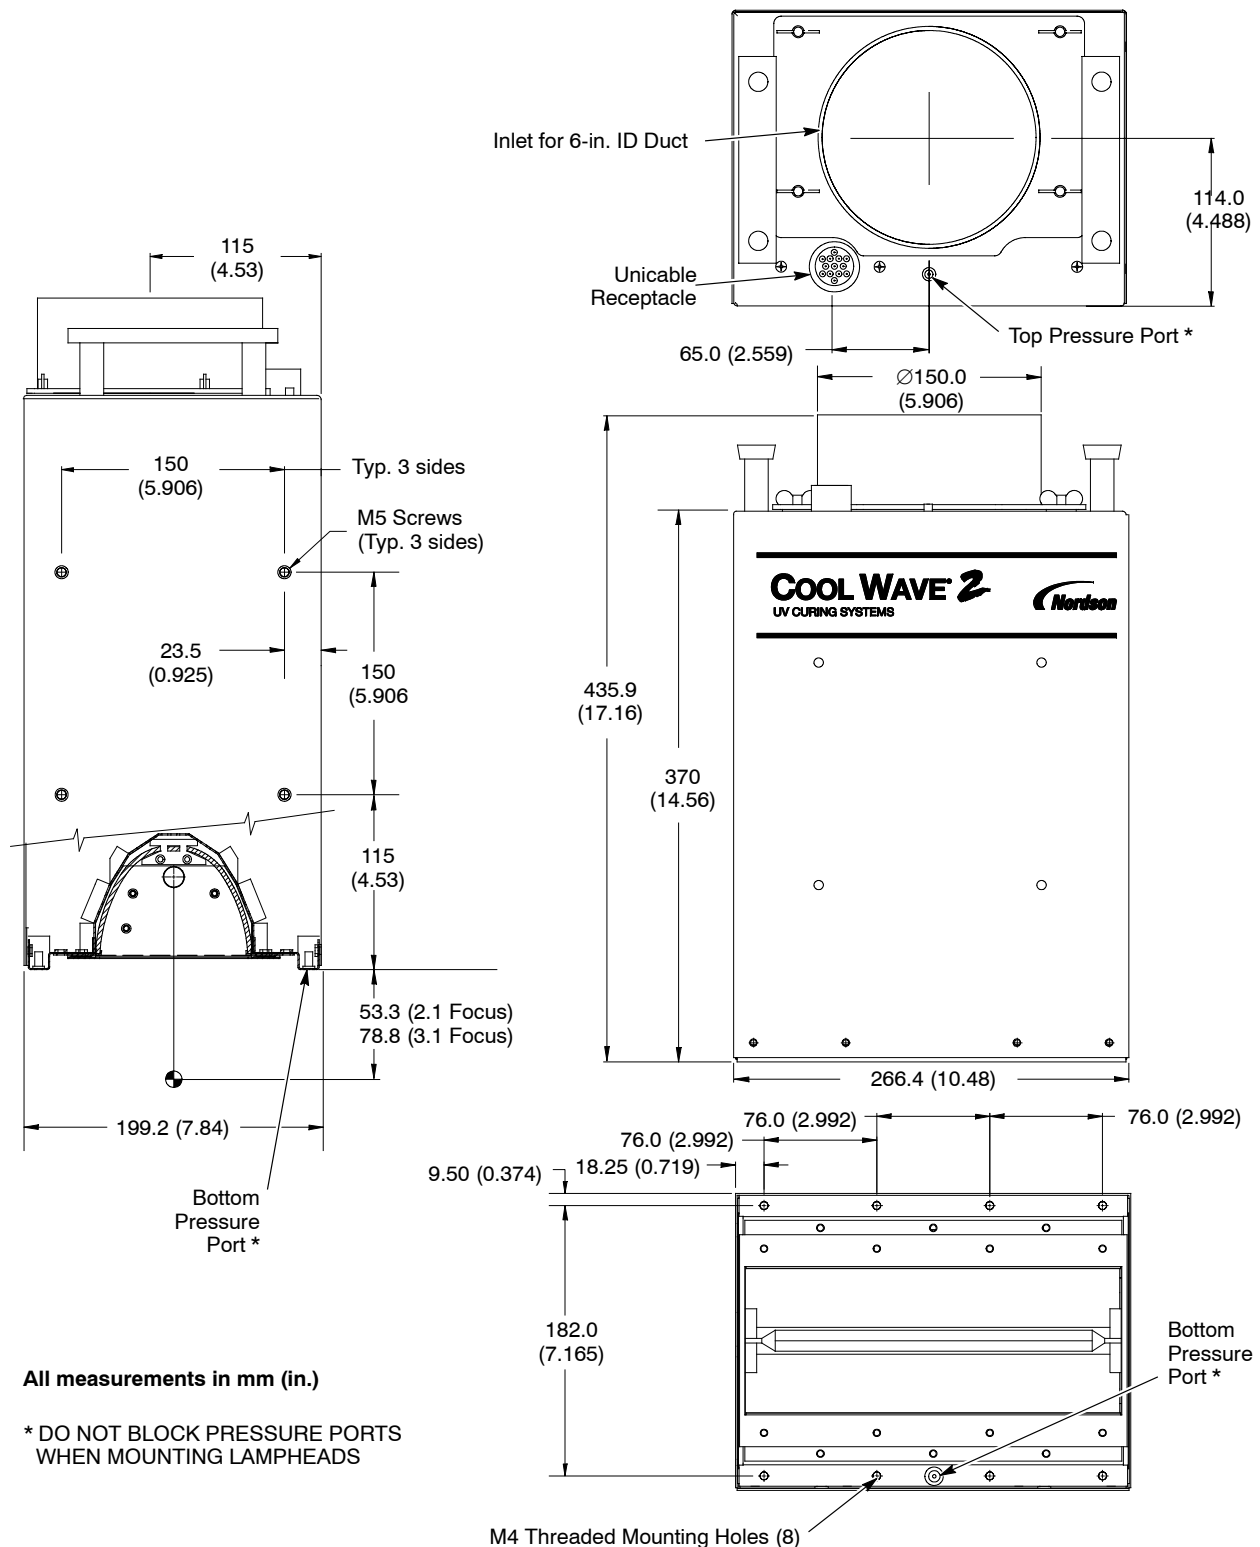
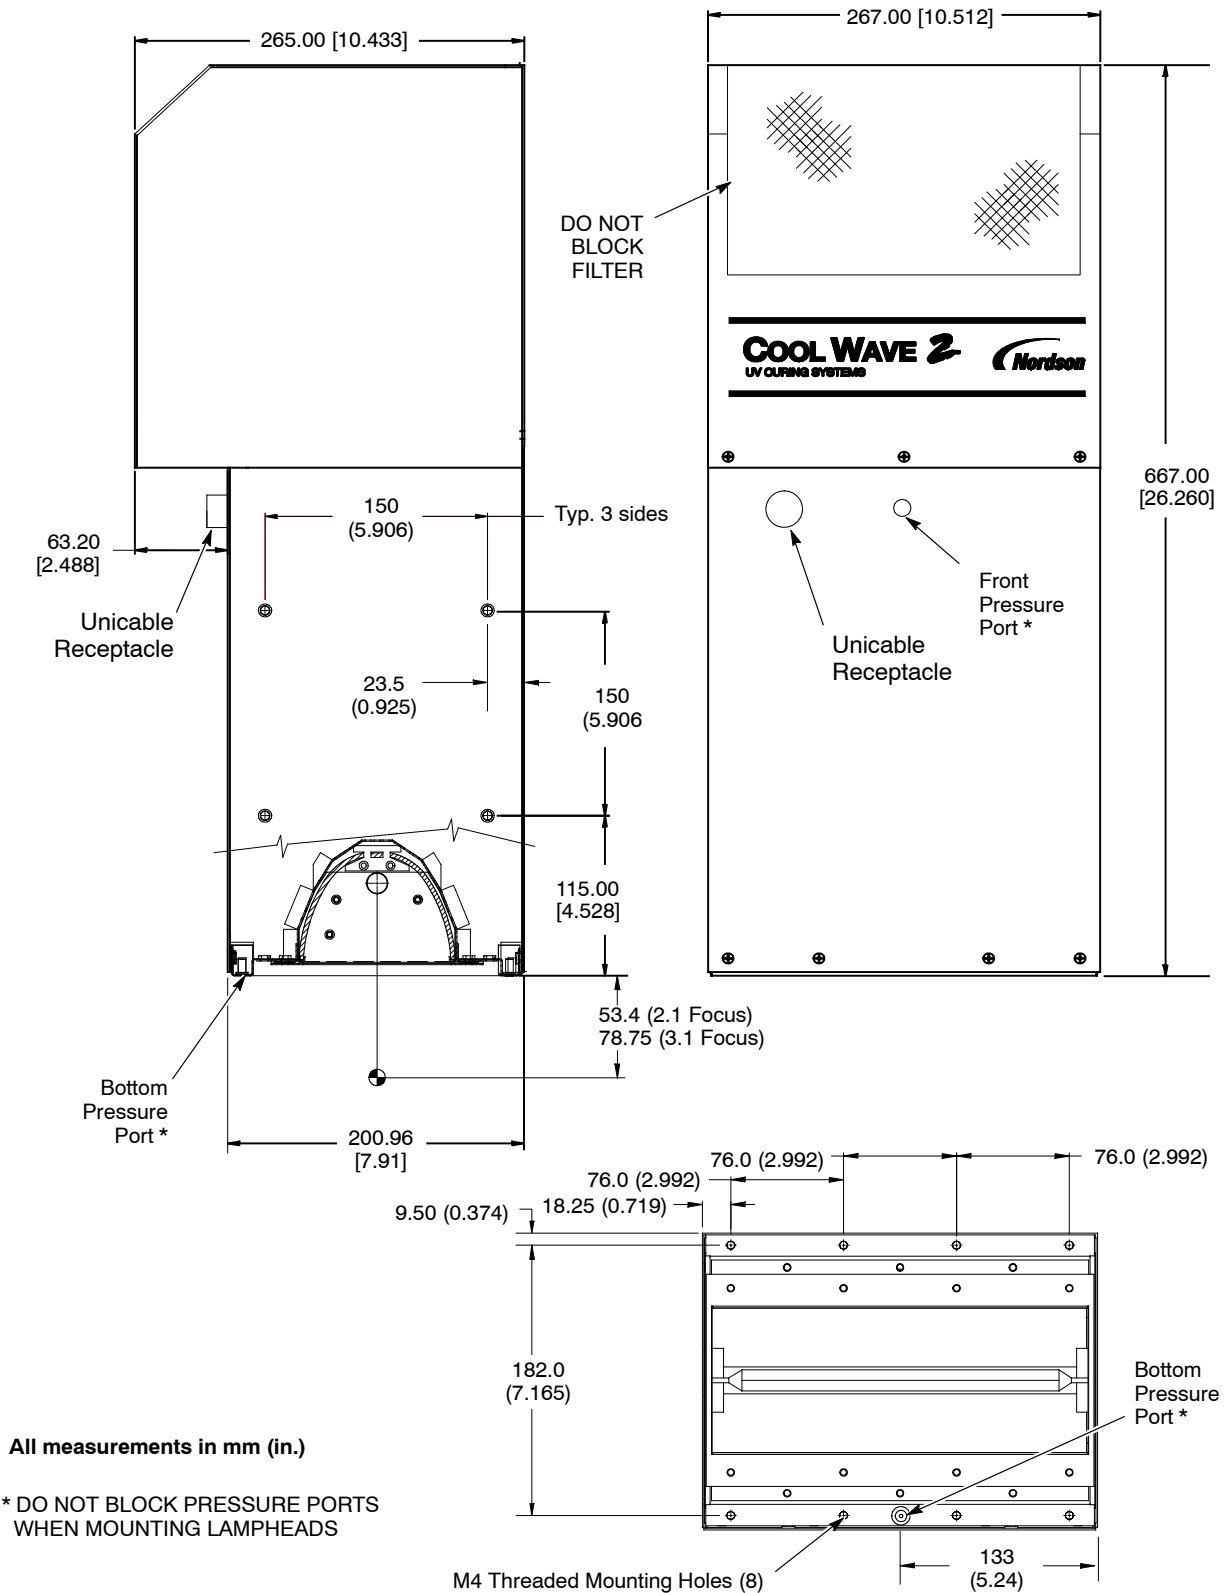
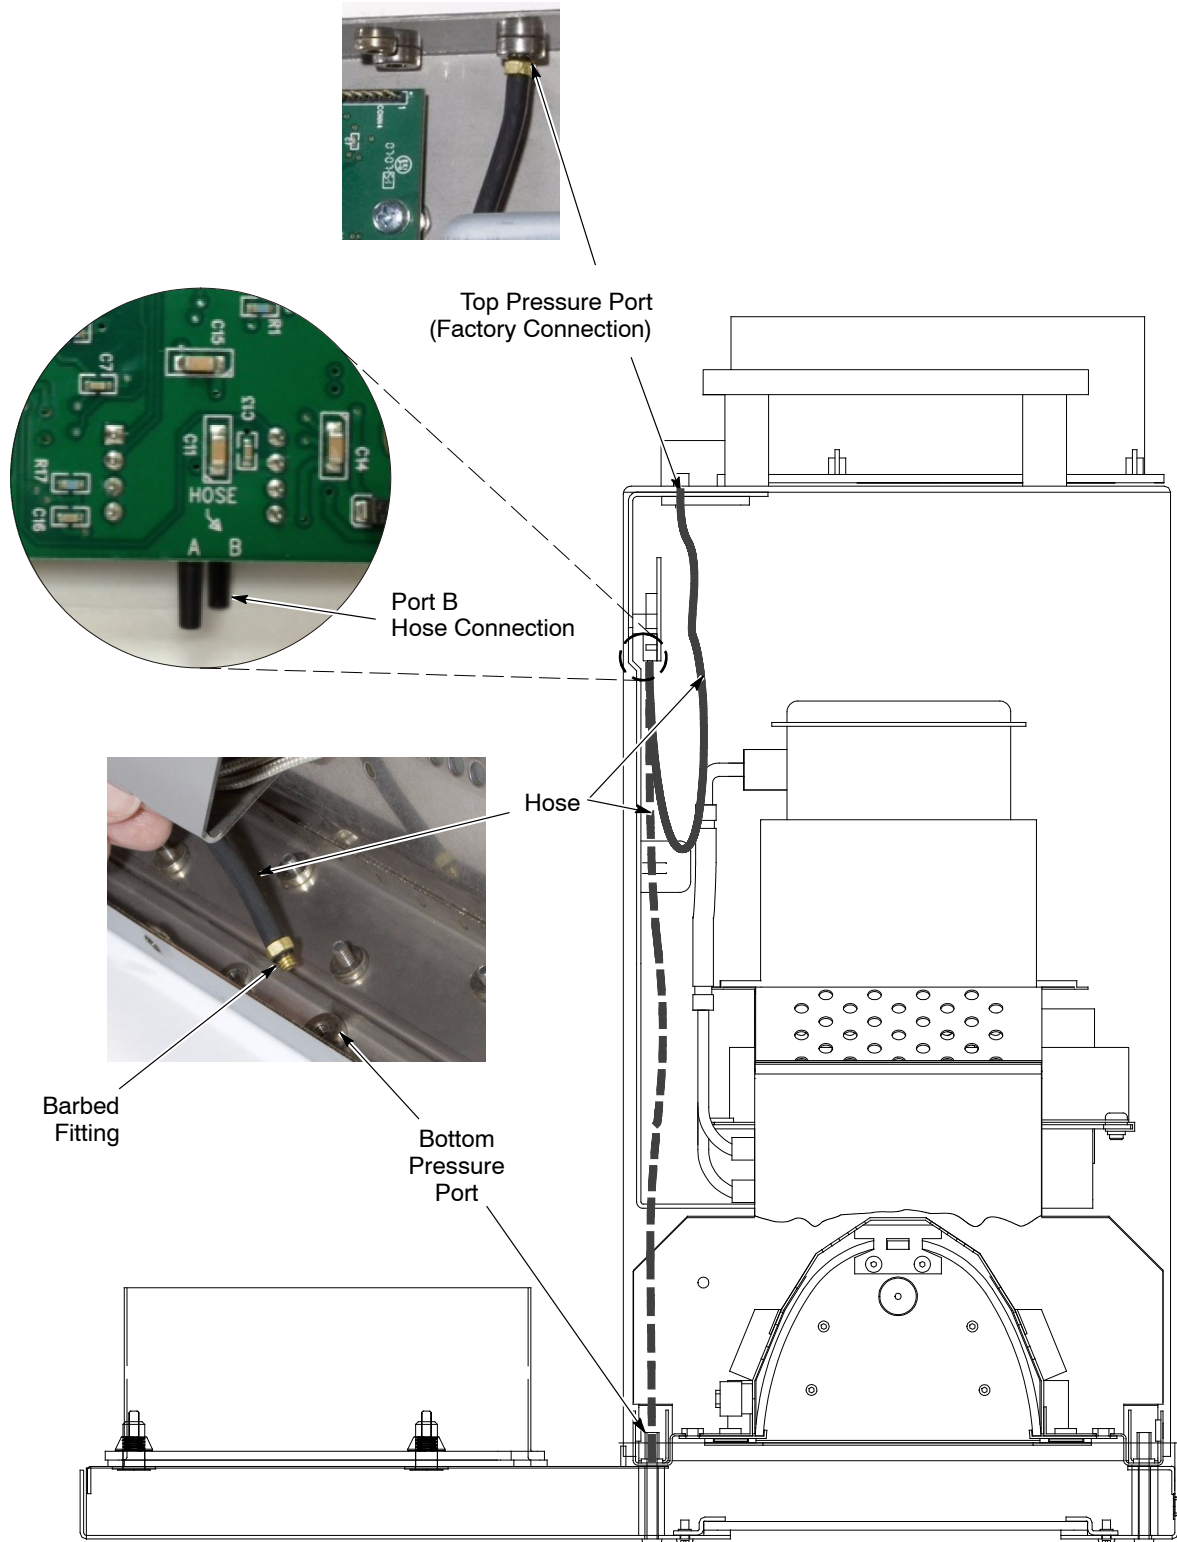

Figure 3-9 Lamphead Dimensions - External Blower Version
Figure 3-10 Lamphead Dimensions - Internal Blower
Figure 3-13 Pressure Port Connections - External Blower Version
Figures 3-9 and 3-10 provide the physical dimensions of the CW-2 lampheads. See page 2-5 for focal lengths. Install lampheads with focus reflectors with the base positioned as follows:
See Figures 3-13 and 3-14. The lamphead pressure sensor on the light detector board is connected by a hose to atmosphere at the top/front or bottom pressure port. (See Figures 3-9 and Figure 3-10 for the location of the pressure ports on internal and external blower versions.) **The hose must be connected to Port B on the board, as shown.**
1. See Figures 3-13 and 3-14. Remove the lamphead cover.